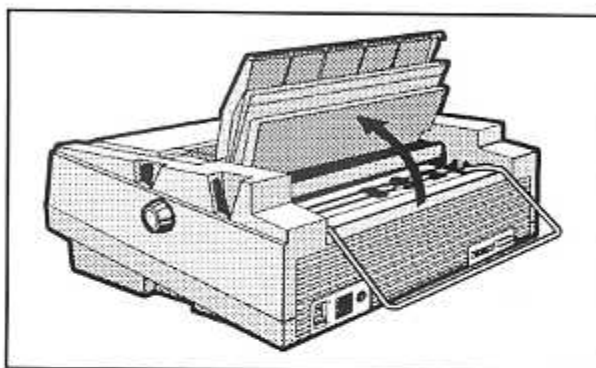

Figure 3-4. Raising the Tractor Cover
2. Raise the paper support and lift up the cover that extends over the forms tractors, as shown in figure 3-4.